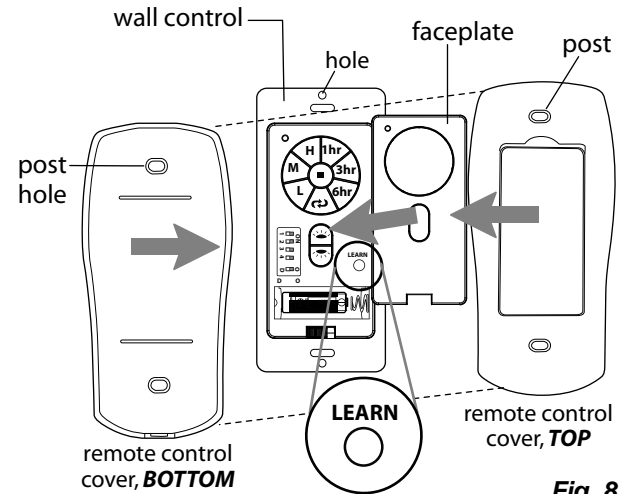

Fig. 8
- E. Align holes in wall control with posts located on inside of TOP part of remote control cover and press together firmly. Carefully tuck each wire into the back of the wall control to enable it to fit inside the remote control cover. Place BOTTOM part of remote control cover over wall control, aligning posts in top of remote control cover with post holes in the bottom. (Note narrower ends of remote control cover before closing.) Squeeze top and bottom of remote control cover together until you hear a click at each end, indicating that the remote control cover has closed completely. (See Fig. 8)
- A. **Restore electrical power** and then, if using wall control, set slider switch on wall control to the ON position. Within 60 seconds of turning on the wall control, press and hold the **LEARN** button on the wall control for 5 seconds or until the fan switches to MEDIUM speed. (See Fig. 8)
- B. **Turn power OFF again for at least 5 seconds and then turn power back on.** Within 60 seconds of restoring the power, press and hold the **LEARN** button on the handheld remote control for 5 seconds to synchronize remote to fan. (See Fig. 8)
- D. Attach **black faceplate** to front of wall control; press down firmly. (See Fig. 8)